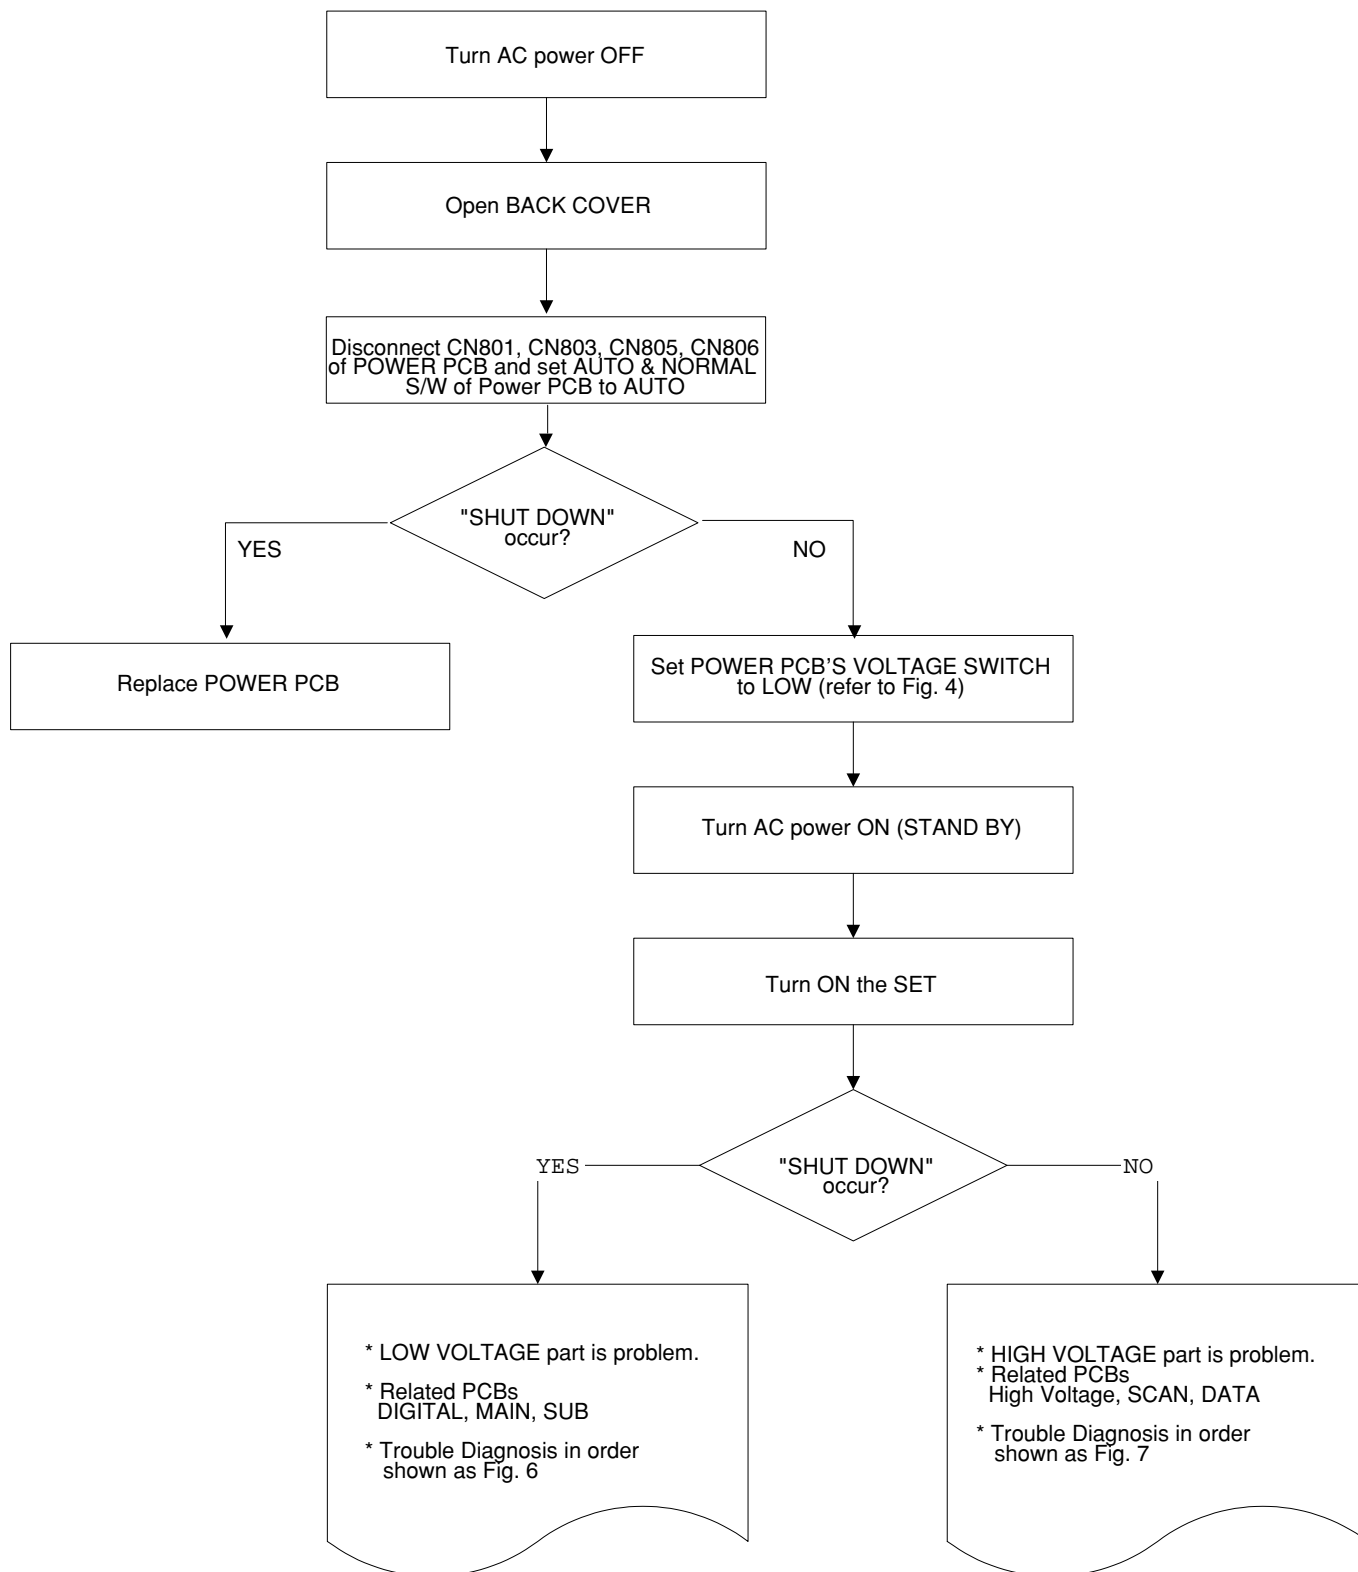

Fig. 5 Trouble Diagnosis Flow when “SHUT DOWN” occurs
- As shown in Fig. 5, first check whether “LOW VOLTAGE” part or “HIGH VOLTAGE” part has problems.